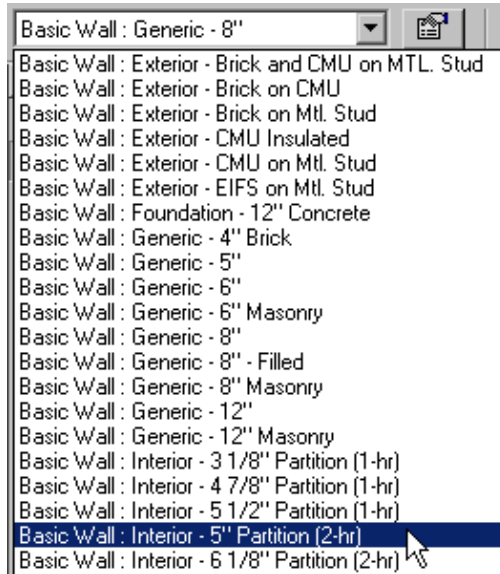

Figure 2-47 Selecting the interior wall type
- b. Invoke the **Wall** tool and select the **Basic Wall: Interior - 5" Partition (2-hr)**, refer to Figure 2-47.
1. Click on the **Type Selector Bar** to display the types of walls available in Autodesk Revit Building. Select **Basic Wall: Interior - 5" Partition (2 hr)**, as shown in Figure 2-47.